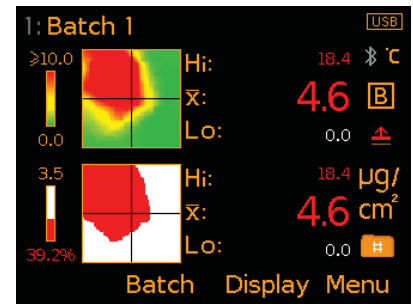

Fig. 8: Salt Density Map & Pass/Fail Map
- **Salt Density Map^a** (Fig. 8); Provides a visual indication of the density of salt contamination over the test area. Levels of soluble salts are illustrated using a green and red contour system; green for very low salt concentration or uncontaminated areas; yellow for areas with mid salt concentration; and red for areas with levels of salt contamination exceeding the defined map scale range.